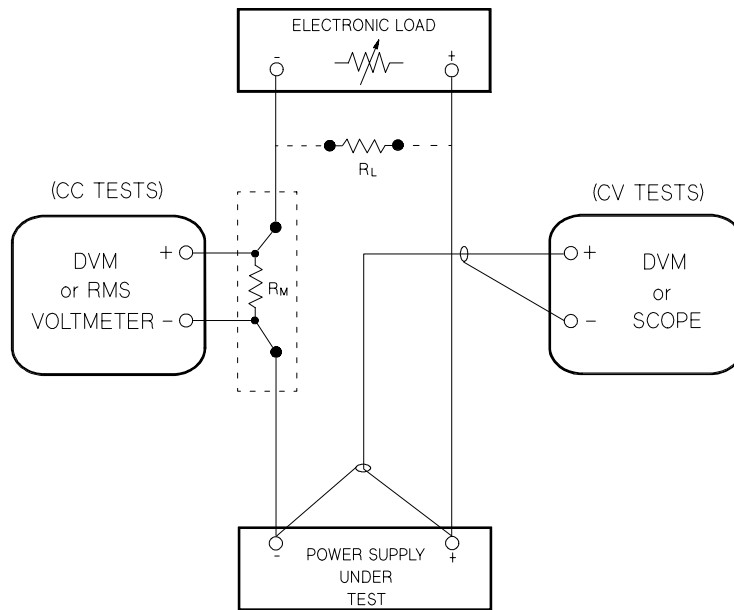
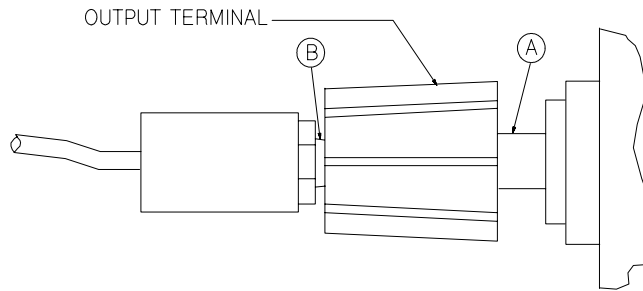

Figure 3-1. Performance Verification Test Setup
Figure 3-2. Front Panel Terminal Connections (Side View)
To eliminate output current measurement error caused by the voltage drops in the leads and connections, connect the current monitoring resistor between the (-) output terminal and the load as a four-terminal device. Connect the current-monitoring leads inside the load-lead connections directly at the monitoring points on the resistor element (see R_M in Figure 3-1).
- 1 Turn off the power supply and connect a digital voltmeter between the (+) and (-) terminals of the output to be tested as shown in Figure 3-1.
- 1** Turn off the power supply and connect a digital voltmeter between the (+) and (-) terminals of the output as shown in Figure 3-1.
- 4** Operate the electronic load in open mode (input off). Record the output voltage reading on the digital voltmeter again. The difference between the digital voltmeter readings in steps (3) and (4) is the CV load regulation. The difference of the readings should be within the limit of (4 mV)* or (7 mV)**.
- 1** Turn off the power supply and connect a digital voltmeter between the (+) and (-) terminals of the output to be tested as shown in Figure 3-1.
- 6** Adjust the transformer to high line voltage (127 Vac for nominal 115 Vac, 110 Vac for nominal 100 Vac, or 253 Vac for nominal 230 Vac). Record the voltage reading on the digital voltmeter. The difference between the digital voltmeter readings in steps (5) and (6) is the CV line regulation. The difference of the readings should be within the limit of (4 mV)* or (7 mV)**.
When measuring Vrms ripple and noise, the monitoring device should be plugged into the front of the terminals at (B) in Figure 3-2. Use the coaxial cable and BNC female to banana plug adapter to connect the monitor device to the power supply. To reduce the measurement error caused by common mode noise, it is recommended that you use a common mode choke between the cable and the BNC adapter. The common mode choke is constructed by inserting coaxial cable into Ferrite Toroidal core. The load resistor should be connected to the terminal at (A) in Figure 3-2. Twisted leads between the load resistor and the power supply helps reduce noise pickup for these measurements.
- 1** Turn off the power supply and connect the output to be tested as shown in Figure 3-1 to an oscilloscope (ac coupled) between (+) and (-) terminals. Set the oscilloscope to AC mode and bandwidth limit to 20 MHz. Connect a resistive load (2.0 Ω)* or (12.5 Ω)** to the terminal at (A) in Figure 3-2.
- 1 Turn off the power supply and connect the output to be tested as shown in Figure 3-1 with an oscilloscope. Operate the electronic load in constant current mode.